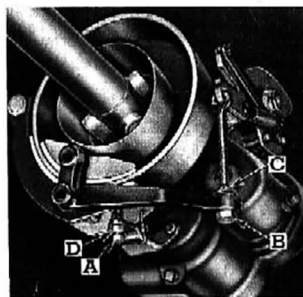

Fig. 56—Propeller Shaft Brake—
2. Loosen lock nut "D" and draw up adjusting bolt "A" (fig. 56) to secure clearance between outer shoe facing and brake drum of .010"-.015" measured at a point directly above bolt "A." Then hold bolt and tighten lock nut securely.